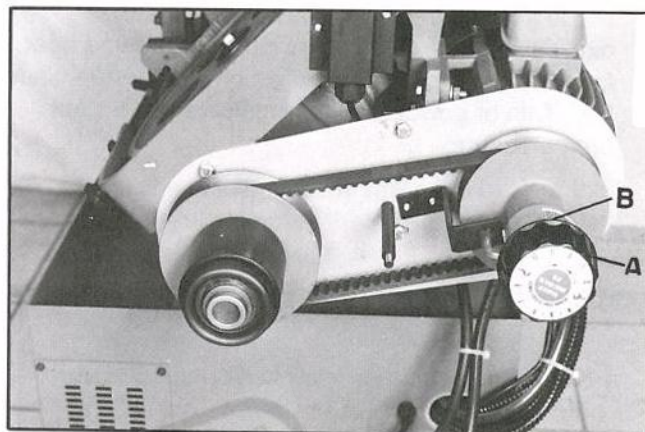

Fig. 4
To adjust the cutting speed, Please refer to Fig. 4 (B) is the speeds' director (from 25M - 75M). And turning (A) handle knob to your desired speed. ( Note:Adjustment must be done during the machine running.)